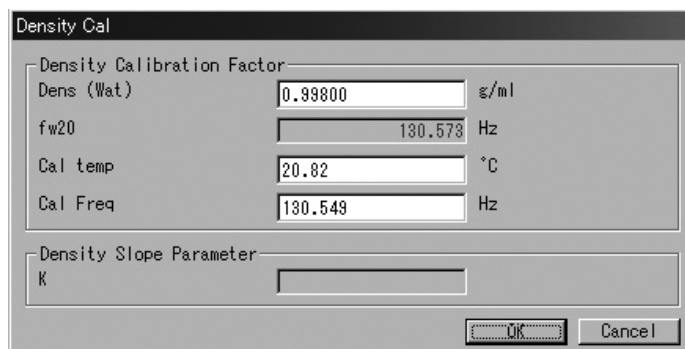

Fig.64
- ① Click on "Setup (S)" at top-level menu of the screen, select "Density Cal" from "Charize sensor" drop-down list, and click on again.
- ② A message box as shown in Fig. 64 appears. At this window, density factors are set up.